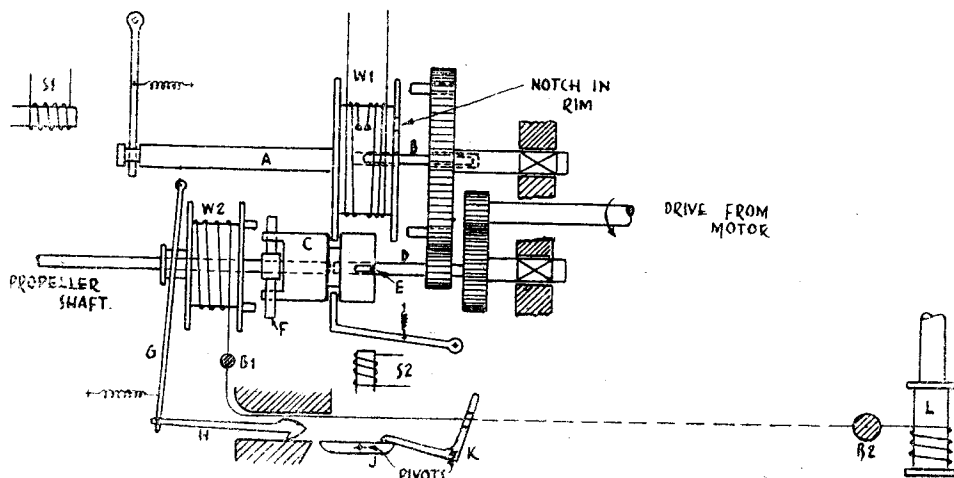

Fig. 8
Except for solenoids which control the rudder, all other functions are controlled by the 6-volt electric motor mentioned earlier. With the assistance of switching devices, gearing and other gadgets, it drives the propeller forward or in reverse, drives the winch for pulling in or letting out the main sheets, and provides the power for the reefing of the mainsails. Having cut away as much of the casing of the original windscreen wiper as possible, and removed the reciprocating parts, I was left with a final drive to a gear wheel of about  $1\frac{1}{2}$  in. diameter *via* one of about  $\frac{3}{4}$  in. diameter. Into the larger of these two I drilled a central hole to take the spindle of the mainsheet winch, and into the smaller I drilled and tapped a central hole into which I screwed and soldered a short shaft which starts off the propeller drive. The general layout is shown diagrammatically in Fig. 8, though the relative positions and sizes of certain parts have had to be changed for the sake of clarity. The diagram is drawn with the drive on "power," this position having been achieved by temporarily energising the switch  $S_1$ , whose armature provides the bearing at one end for the shaft (A) which is fixed to the mainsail winch ( $W_1$ ); the bearing for the other end being the short rod (B) mentioned above which runs free in holes drilled into the winch shaft and the large gear wheel shaft.
The arrangements for reefing the sails probably caused me more trouble and unprofitable work than any other bit of the boat. My original idea was for the mast to wind up a spring when the sail was set, which would be released when I wanted to furl the sail. In the end, however, I decided to use the motor to do the job automatically whenever I went over from "sail" to "power." A tricky problem then arose; the requirement was that when the sail was pulled out to its full extent—in fact, at the moment when it reached full extension—a clutch would engage so that when the propeller shaft next turned, it would revolve a winch to turn the mast until the sail was fully reefed, and then disengage itself, but be ready to function again should the sail be reset. I tried and made all sorts of devices, many of which failed because they relied on the relative strengths of several springs, systems which I found were almost impossible to adjust. I finally adopted the one illustrated in Fig. 8, which does work very well. The vital bits in this are two ordinary glass beads of different sizes (B1 and B2) kindly supplied from stock by my daughter. The winch W2 runs freely on the propeller shaft and has on its inner face a series of bosses which can engage with the arms of collar F to lock the winch to the propeller shaft when necessary. To its outer face is fixed a collar which engages in a fork-shaped lever G, pivoted at one end and having a spring tending to disengage the winch from the propeller shaft collar F. Pivoted to the other end of lever G is a further lever H with a double hook at its far end which travels in a fixed rectangular-shaped "tunnel" as shown.